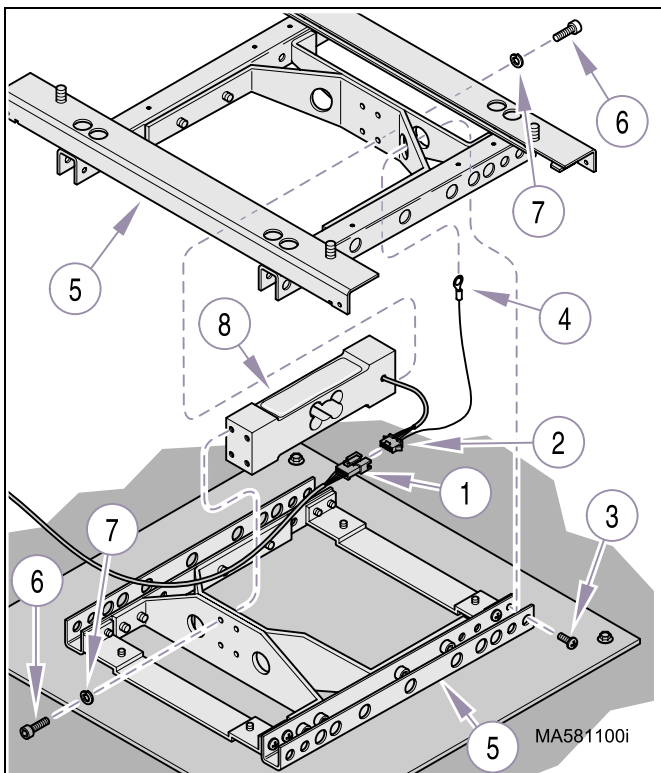

Figure 4-9. Platform Load Cell Removal / Installation
- (1) Access platform scale components (Refer to para 4.8).
- (2) Disconnect display harness (1, Figure 4-9) from load cell harness (2).